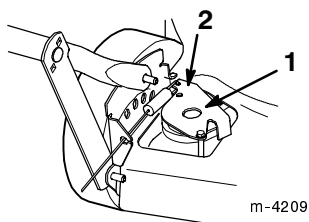

Figure 34
3. Push the drive bracket down until it contacts the lawn mower, then hold it in place (Fig. 34).